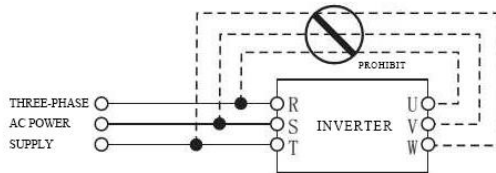

figure 1-2
- It is strictly prohibited to connect the AC power supply to the output terminals U, V, and W of the inverter, otherwise the inverter will be damaged, as shown in Figure 1-2.